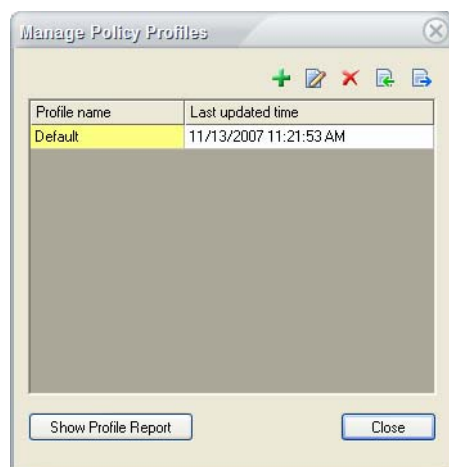

Figure 12-4: Manage Policy Profiles screen
- 1) From the AirMagnet Enterprise Console screen, select **Manage>Policy Profiles....** The Manage Policy Profiles screen appears. See Figure 12-4.